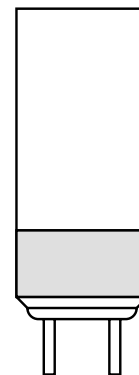

Figure 6
4. A calibrated set plug (refer to Figure 6) is shipped loose inside the electrical box. The set plug is used to select the setting at which the high-humidity alarm sounds. To insert the set plug, unplug the flat brown 2-wire ribbon cable in the electrical box. Insert the set plug into the ribbon cable socket.